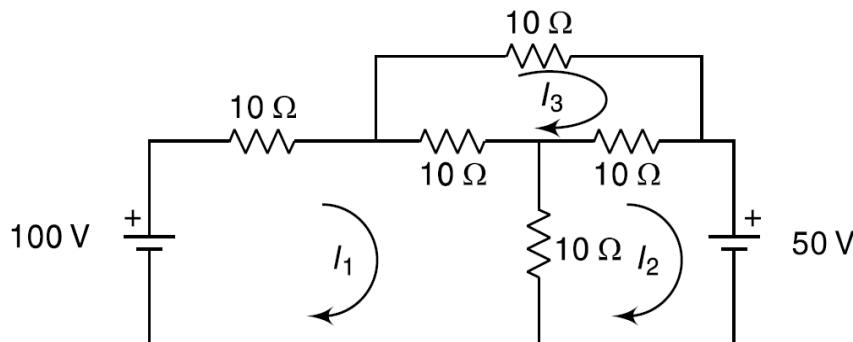

Fig. 1
1. Using Mesh analysis, determine the currents I_1, I_2 and I_3 in the circuit shown in the Fig.1